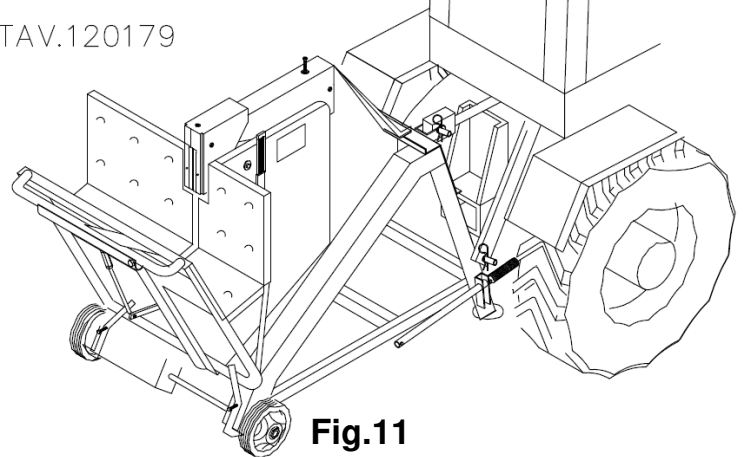

Fig.11
- The machine can be transported with a tractor hooked to the machine itself by means of the three point(Fig.11).